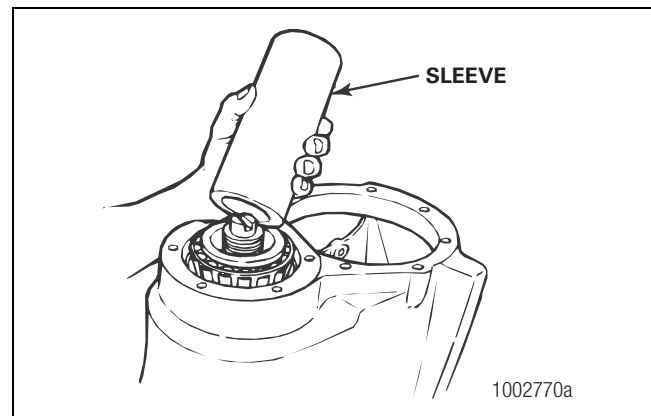

Figure 5.9
4. Use a press and a sleeve to install the bearing cone onto the pinion. Apply no more than two tons (1814 kg) of force to verify that the bearing cone is correctly installed. Figure 5.9.